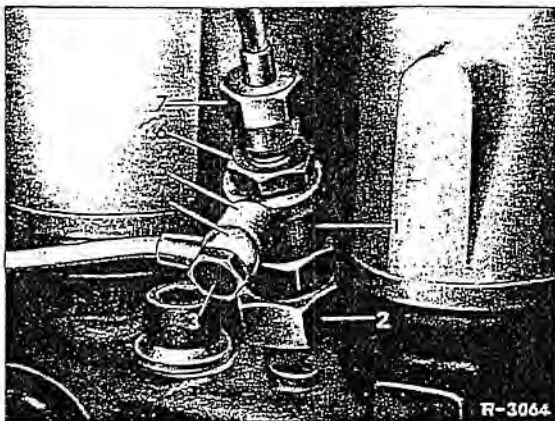

Fig. 07-22/1
1. Take off cap nut (7) retaining injection pipe (Fig. 07-22/1).
2. Unscrew hexagon nut (6) holding the through-way jointing piece (5) and the hollow bolt (3) that forms part of the union of the leak-off oil pipe (4) and anchors it in position.